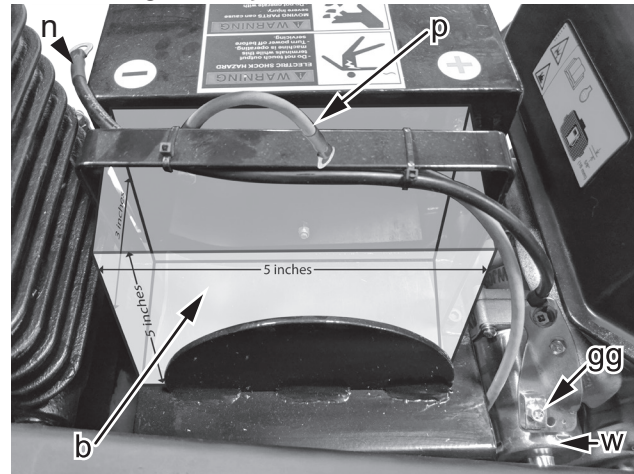

fig.9 Back view- battery & starter wiring
This unit can be started using the re-coil (pull) start, and will run by supplying its own power, but for convenience, most owners will want to use the electric start option, which will require a 12 volt battery of the type commonly used for motorcycles. The space available will allow a battery to fit behind the Generator/Welder Panel. Be sure the battery you choose will fit in the 5" wide x 3" deep x 5" high (127 x 76.2 x 127 mm) space (fig.9) with room to connect the cabling.
- You will require insulated copper wire of #10 AWG or thicker of sufficient length and use it to make a cable connection from the equipment ground terminal (gg, fig.9) directly to the metal vehicle frame or directly to actual ground (earth).